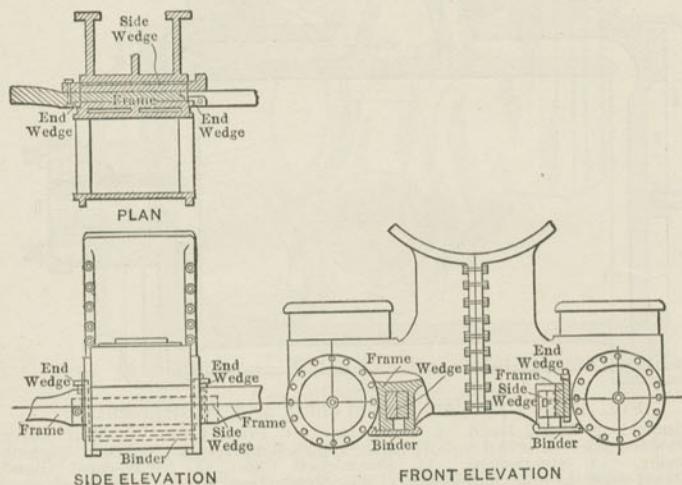

Fig. 129. Cylinder Fastening.
A. The cylinder and half-saddle cast in one. (See Fig. 129.)
A. No; some Philadelphia and Reading engines have them wedged together as shown in Fig. 129.